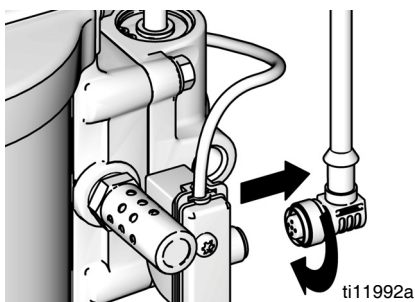

FIG. 16. Disconnect DataTrak
1. Unscrew cable from the back of the reed switch assembly. See FIG. 16.